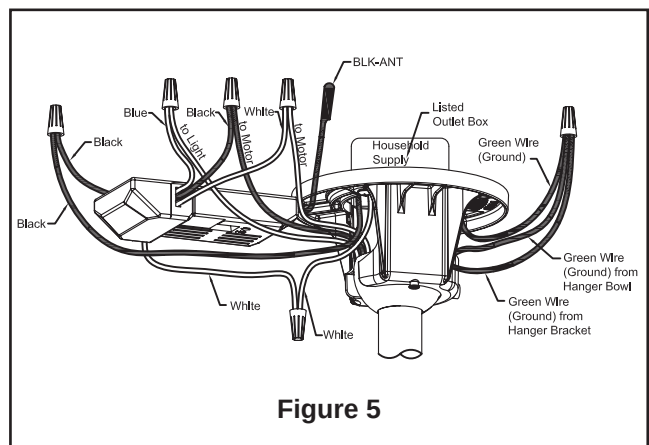

Figure 5
- ☐ 5. Reinstall the hanger ball on the downrod as follows. Route the three 80-inch wires through the hanger ball. Position the pin through the two holes in the downrod and align the hanger ball so the pin is captured in the groove in the top of the hanger ball. Pull the hanger ball up tight against the pin. Securely tighten the set screw in the hanger ball. A loose set screw could create fan wobble (Figure 5).
- ☐ 4. Connect green wires from hanger bracket and hanger ball to bare (ground) wire using wire connector supplied. Connect black wire from receiver unit marked "AC IN L" to black supply wire using wire connector supplied. Connect white wire from receiver unit marked "AC IN N" to white supply wire using wire connector supplied. Connect white wire from receiver unit marked "TO MOTOR N" to white wire from fan using wire connector supplied with receiver. Connect black wire from receiver unit marked "TO MOTOR L" to black wire from fan using wire connector supplied. Lastly, connect blue wire from receiver to the blue fan light wire using wire connector supplied. Position all connected wires and receiver antenna to allow installation of ceiling canopy (Figure 5).
- ☐ 5. Connect the 2-pin connector from the light socket plate to 2-pin connector from motor assembly (Figure 5).